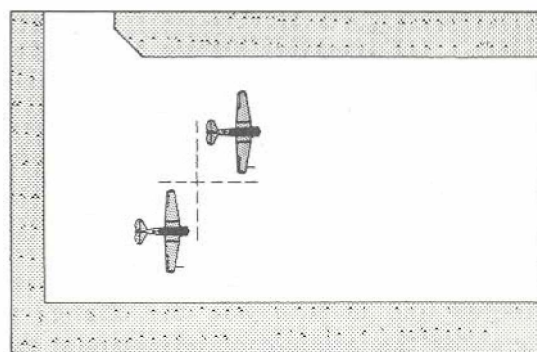

Figure 2: The Formation Take-off
(1) In Art 17.02 covering the pre-flight briefing, mention was made of the leader setting an "engine starting time" and choosing a suitable executive signal. Although practice in this procedure is desirable, since it is an important part of formation flying at AFS, the normal routine at FTS makes it impracticable. Usually the Harvards at FTS are started individually, and each pilot "checks in" at the request of the leader on a pre-selected radio frequency. Any unserviceability which may delay the departure should be reported to the leader at this time. Following the "check in", the leader orders a frequency change before calling for taxi instructions. Each member of the formation acknowledges receipt of these instructions, in sequence, starting with the leader.
(2) When the formation is ready to taxi out they should do so together, whether they be an element of two aircraft or a much larger group. In this way they should move to the take-off position as a compact unit, ensuring that no other aircraft comes between them. The leader obtains any clearances for crossing runways, and for the line-up on the runway after the Run-up Check.
(3) After obtaining take-off clearance, the leader taxis onto the runway, taking the left side if a left-hand circuit is in force, or the right side if a right-hand circuit is in force. He must align his aircraft with the runway and be far enough down to allow the wingman to move into the correct echelon position. There should be ample separation between the aircraft, as shown in Figure 2.